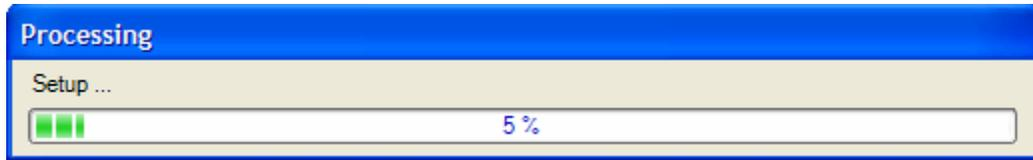
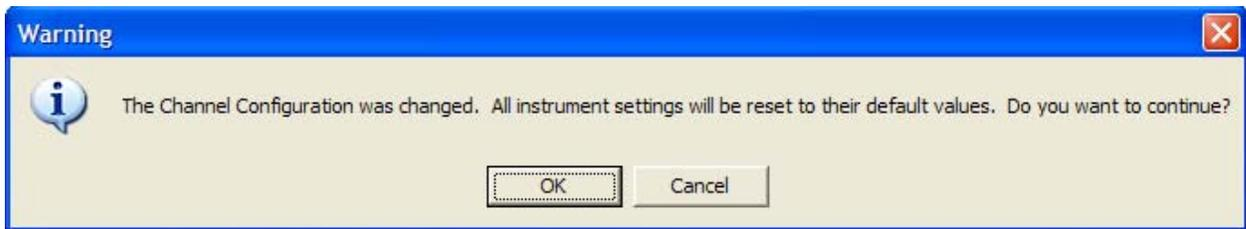

Figure 3-2: Progress Bar Displayed by SR5500 TestKit
Figure 3-6: Channel Configuration Modification Warning Message Box
1. *Number of SR5500 Units in the system:* Set the 'Number of SR5500 instruments controlled by TestKit' (available under System/Communication Setup) to 2 using the drop down list and click 'Ok'. A progress bar as shown in Figure 3-2 will inform the user about the progress made.
A warning message (shown in Figure 3-6) will appear, warning the user, that settings on the instruments will be set to default on changing the channel configuration. Click 'Ok' and a progress bar (as in Figure 3-2) will inform the user about the progress made.